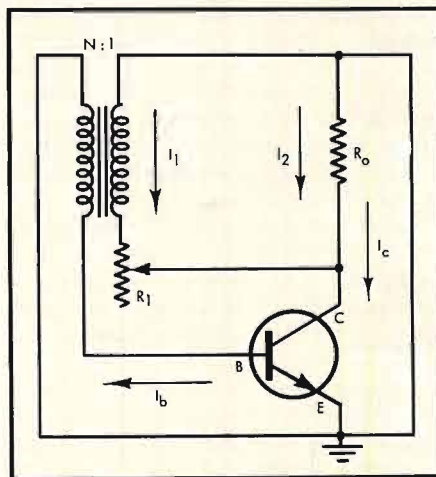

Fig. 1. Simplified schematic of basic arrangement for testing transistors.
Basically, the circuit1 is that of an oscillator. The point at which oscillation starts is determined by the  $\beta$  of the transistor and by a potentiometer  $R_1$  in Fig. 1. The frequency of oscillation which lies in the audio range, depends mostly on the transformer characteristics.
To understand the operation of the circuit, let us examine the conditions which prevail when the circuit just begins to oscillate: (see Fig. 1)
Let us investigate the circuit further to see what other useful relationships we can determine, and how we can make a linear, direct-reading, dial scale. Suppose we make the resistor  $R_1$  a 10-turn potentiometer, and we use a 15-turn dial such as a Beckman type "RB" (or other similar device) to read out our  $\beta$  values directly. This dial has 100 major divisions per turn, and a total of 15 turns or 1500 divisions. If we determine the minimum  $\beta$  value we wish to read, we automatically set the maximum value of  $\beta$  we can read on one range. This is true since our resistor  $R_1$  in Fig. 1 goes from a minimum value of zero ohms to its maximum value when rotated the full 10-turns, and  $\beta$  varies with  $R_1$  according to Eq. (1).